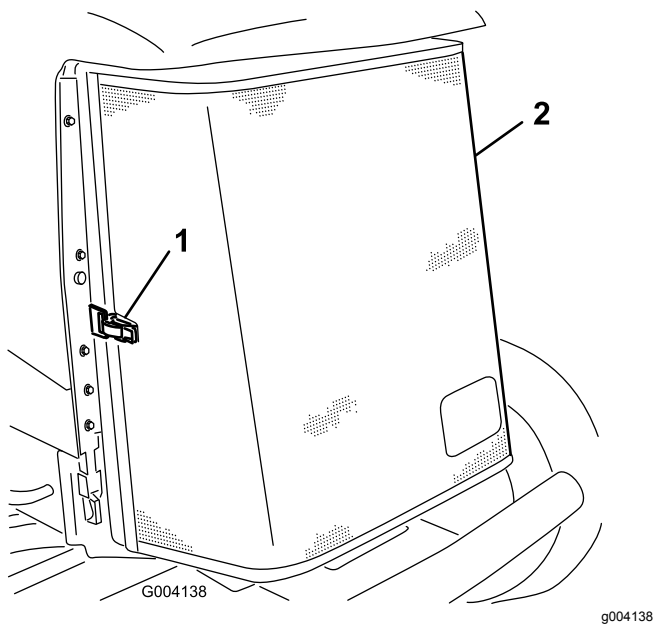

Figure 79
3. Unlatch the clamp and pivot open the rear screen (Figure 79).